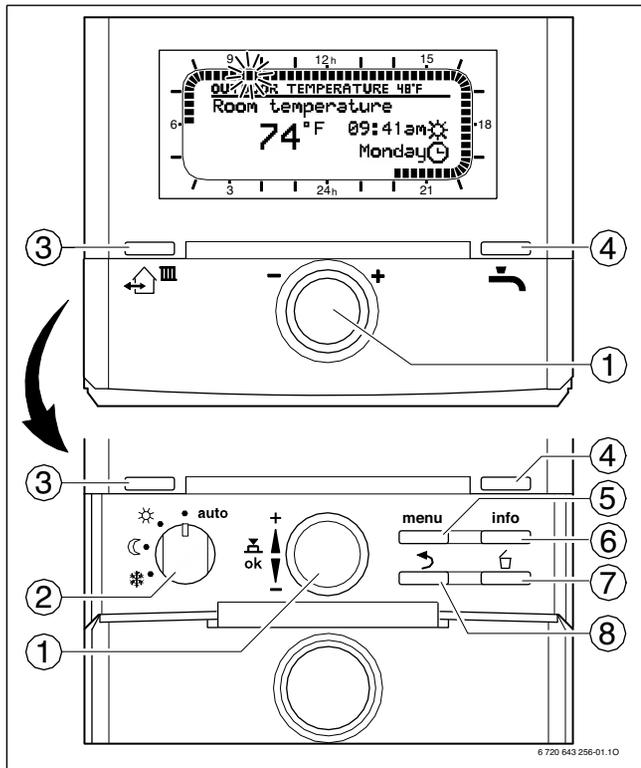

Fig. 63 FW 200 heating control with front flap closed / flap opened
Legend to Fig. 63:
In the following description, at any time, pressing the menu button (→ Fig. 63, [3]) will bring you back to the standard display.
- ▶ Turn the dial (→ Fig. 63, [1]) to adjust time and date.
- ▶ Press and hold the menu button (→ Fig. 63, [5]) until this prompt disappears.
- ▶ Press the menu button (→ Fig. 63, [5]).
- ▶ Turn the dial (→ Fig. 63, [1]) counter-clockwise until **General settings** is highlighted.
- By turning the selector (→ Fig. 63, [2]) to the comfort symbol (☼).
- ▶ Press the menu button (→ Fig. 63, [3]).